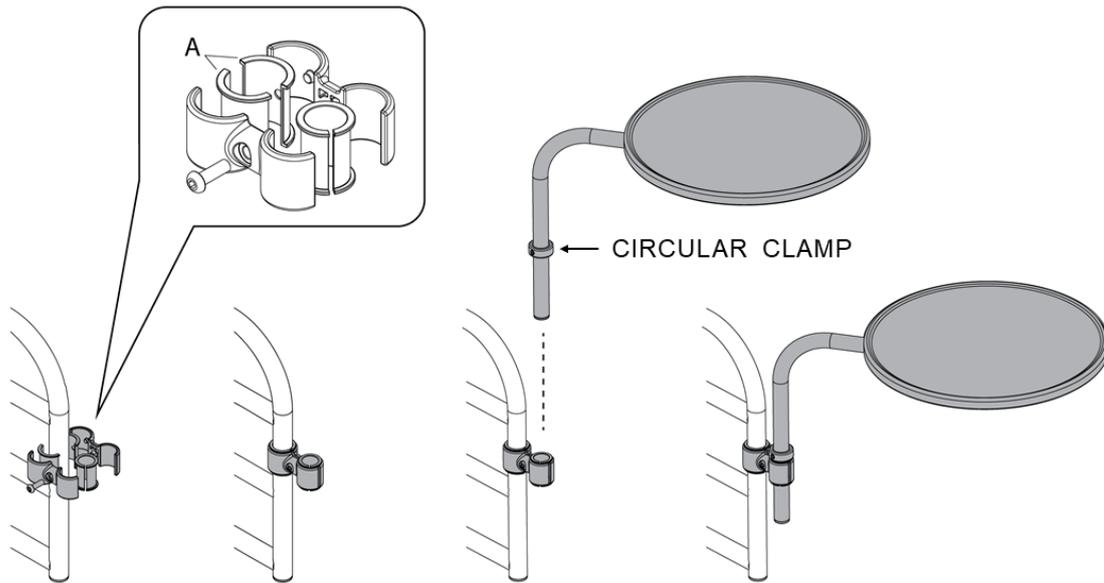

FIGURE 8
9. The 8900 Series bed rail accepts a TRAY TABLE accessory. Mount the TRAY TABLE as shown in Figure 8. Position the clamp so the protrusions align with the holes in the RAIL ASSEMBLY. Loosely attach the clamp on the RAIL ASSEMBLY before inserting the TRAY TABLE. Place CIRCULAR CLAMP on the table support tube at the desired height and tighten. Insert the TRAY TABLE into the clamp and finish tightening the clamp. Note that item A in Figure 8 is not needed when mounting the TRAY TABLE to the center post (position B, Figure 9).
10. The TRAY TABLE can be mounted to the BED RAIL in the positions shown in Figure 9. Note that the TWO-PIECE SLEEVE (Figure 8, Item A) is not needed in position B.